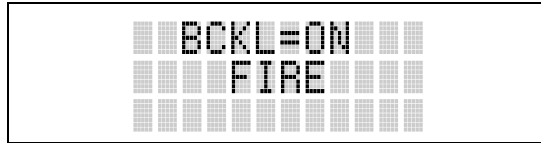

Figure 10-8: Backlight Menu Display
3. Press **M**. The backlight menu item is activated. Line one shows the active menu item and its current parameter setting. Line two shows the currently selected system or group name (see Figure 10-8).